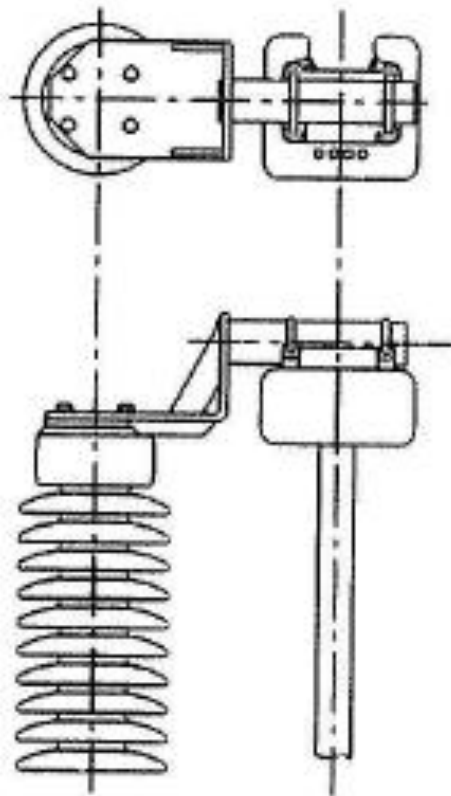

Figure 2: Jaw Mounting Adapter Installation
1. Install the Grounding Switch Jaw Mounting Adapter to the top of the Insulator during installation of the Disconnect Switch Live Parts - **Figure 2**. When both a Jaw Mounting Adapter and Spacer are used, the Spacer mounts **above** the Jaw Mounting Adapter.